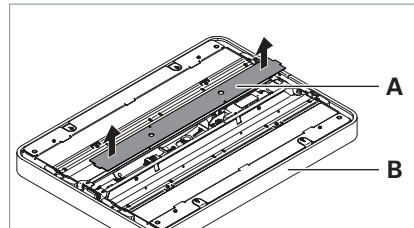

Fig. 16: Removing the cover.
- ▶ Unscrew the two screws in the cover **A** and take the cover off the light head **B**, see Fig. 16.